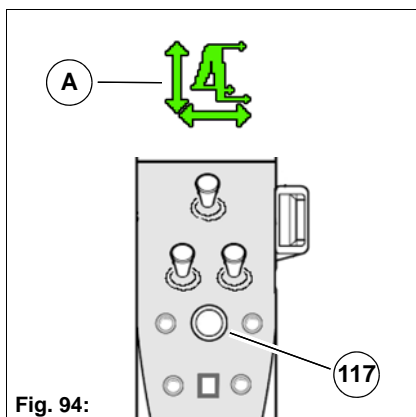

Fig. 94:
- The yellow frame around the symbol **Fig. 94-A** indicates the current activation status.